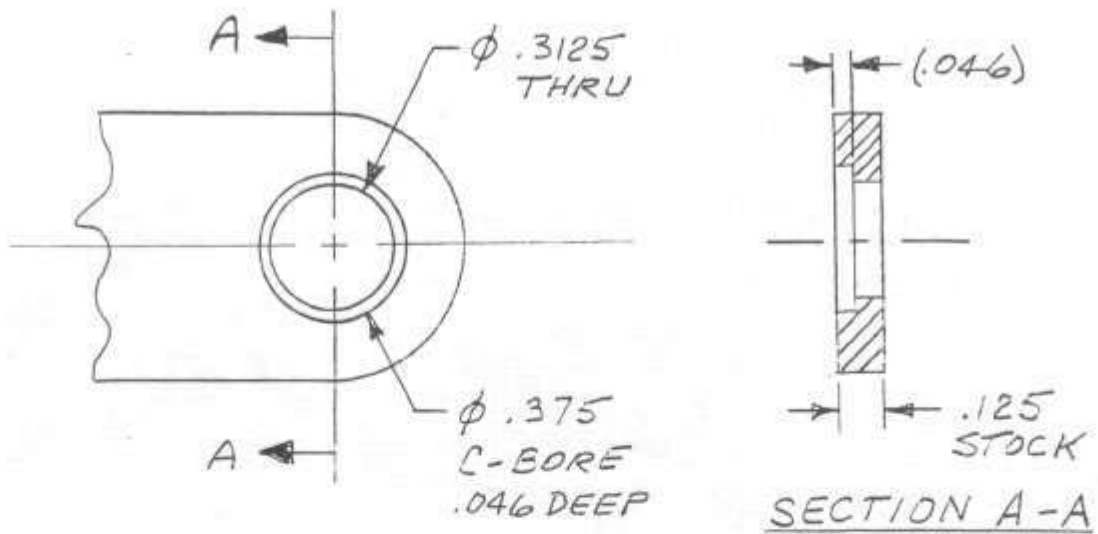

FIG. 1
Figure 1 shows the hole preparation required to accept the flanged "Oilite" bushing (Boston Gear Company, P/N FB 35-1). This bushing is available from most Industrial Supply houses and is also available from Aircraft Spruce and Specialty for \$0.80 each.
1. In machining the prep hole in Fig. 1, it is essential that the two diameters be accurate and concentric. Drilling a pilot hole first and using that size pilot in a 3/8" dia. counterbore will bring in the required concentricity. Then the 5/16 dia. bore can be reamed. Some care should be exercised to hit the .046" c-bore depth so that the installed bushing faces will be flush with the 1/8" stock faces.